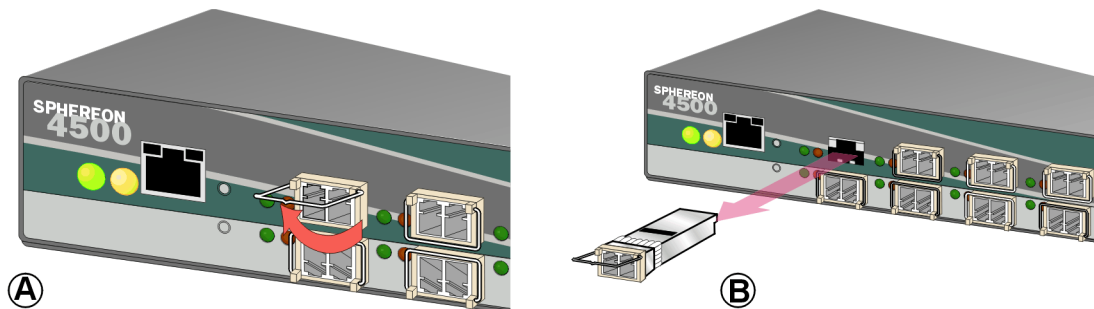

Figure 5-1 SFP Optical Transceiver Removal and Replacement
- a. Disengage the locking mechanism by rotating the wire locking bale up or down 90 degrees as shown in part (A) of Figure 5-1 on page 5-4.
- b. Grasp the wire locking bale and pull the transceiver from the port receptacle as shown in part (B) of Figure 5-1 on page 5-4.
2. Insert the transceiver into the port receptacle, then engage the locking mechanism by rotating the wire locking bale up or down 90 degrees as shown in Figure 5-1.